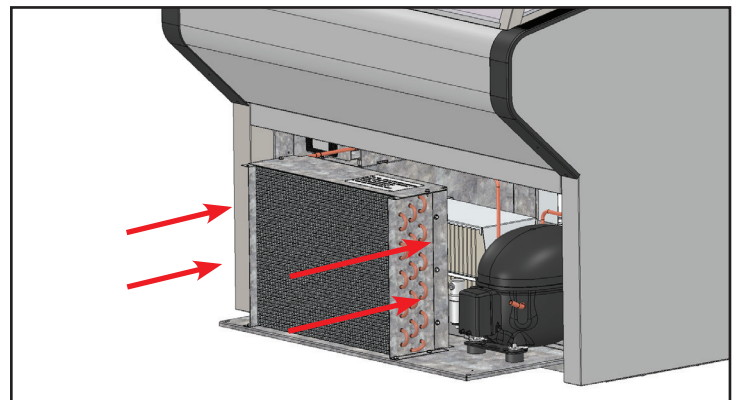

Fig. 7. Carefully slide the condensing unit back into position and replace bolts.
10. Carefully slide the compressor assembly back into position and replace the bolts. See fig. 7.